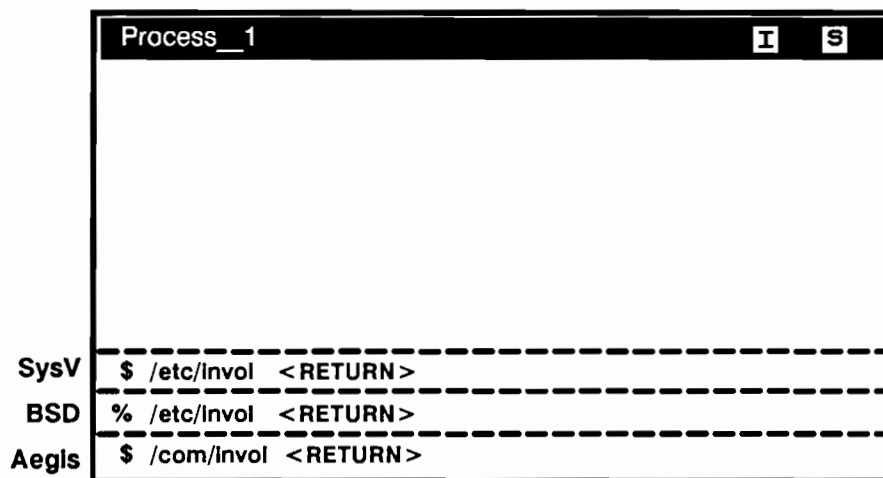

Figure 6-2. Starting the invol Utility
1. Use the command shown in Figure 6-2 to start the **invol** utility.